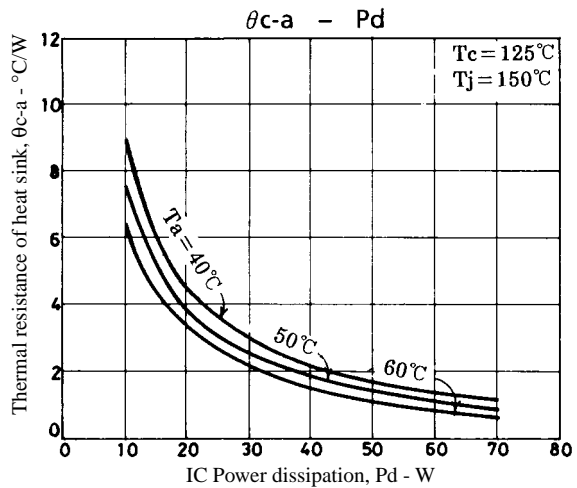

Figure 3. STK4161V θc-a – Pd
Figure 3 shows the relation between Pd and θc-a given from (1) and (3) with Ta as a parameter.
The thermal resistance of a heat sink is obtained from Figure 3.